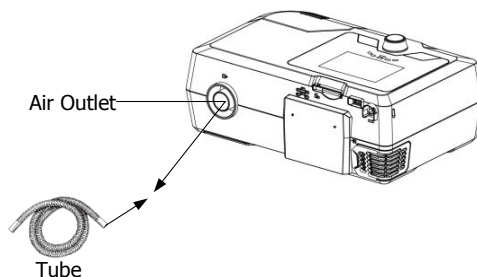

Fig. 12-4
(1) Connect one end of the tube to the air outlet of the device, as shown in Fig. 12-4.